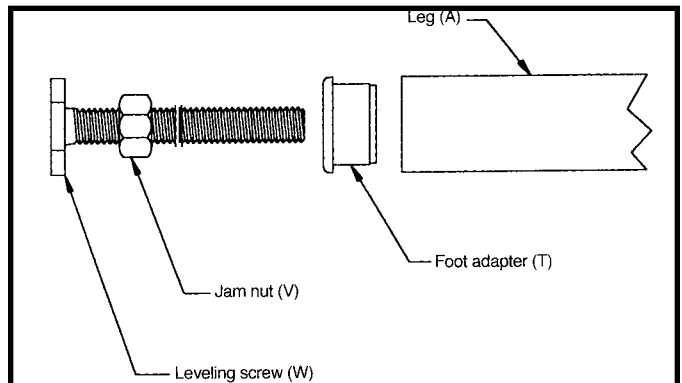

Fig. 8
5. Insert foot adapter (T) Fig. 8, into the bottom of each leg (A). Assemble the 3/8" jam nut (V) approximately 3/4 of the way onto leveling screw (W). Thread the leveling screw (W) into foot adapter. Fig. 9 illustrates the foot leveling assembly on the table leg. Assemble the remaining foot assembly to the other table leg in the same manner. **NOTE: Height adjustments can be made later.**